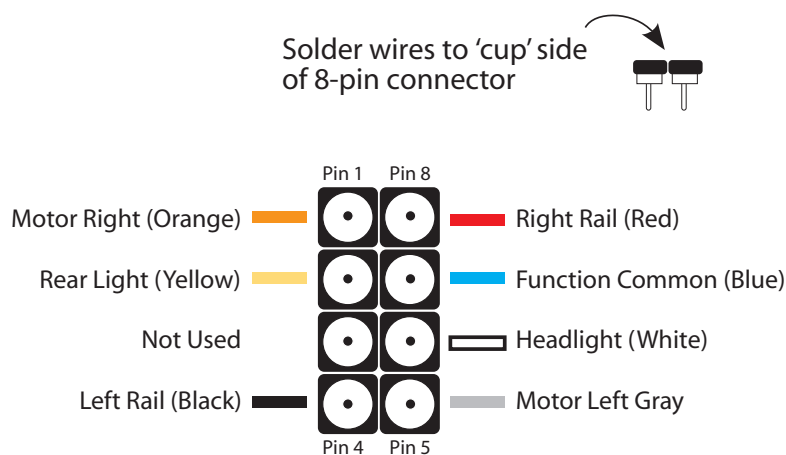

Figure 2 - NMRA 8-Pin Connector Wiring Code
3. Wire the connector to the decoder's wire harness according to the illustration. Solder the wires from the sound decoder to the cup side of the connector as shown in the Figure 2.